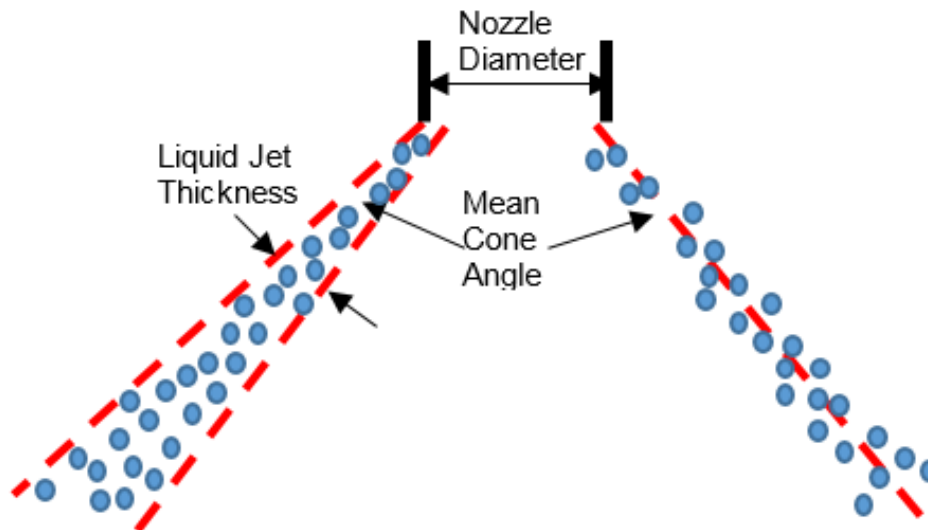

FIGURE 3.10: MEAN CONE ANGLE AND LIQUID JET THICKNESS IN A HOLLOW-CONE SPRAY
- **Mean Cone Angle:** Just Sprays for Hollow-Cone. The parameter regulates the hollow-cone spray shape opening angle. **Figure 3.10: Definition of mean cone angle and liquid jet thickness in a hollow-cone spray.**
- **Liquid Jet Thickness:** Just Sprays for Hollow-Cone. That prescribes the spray layer spreading angle. **Figure 3.10: Mean cone angle and liquid jet thickness in a hollow-cone spray.**